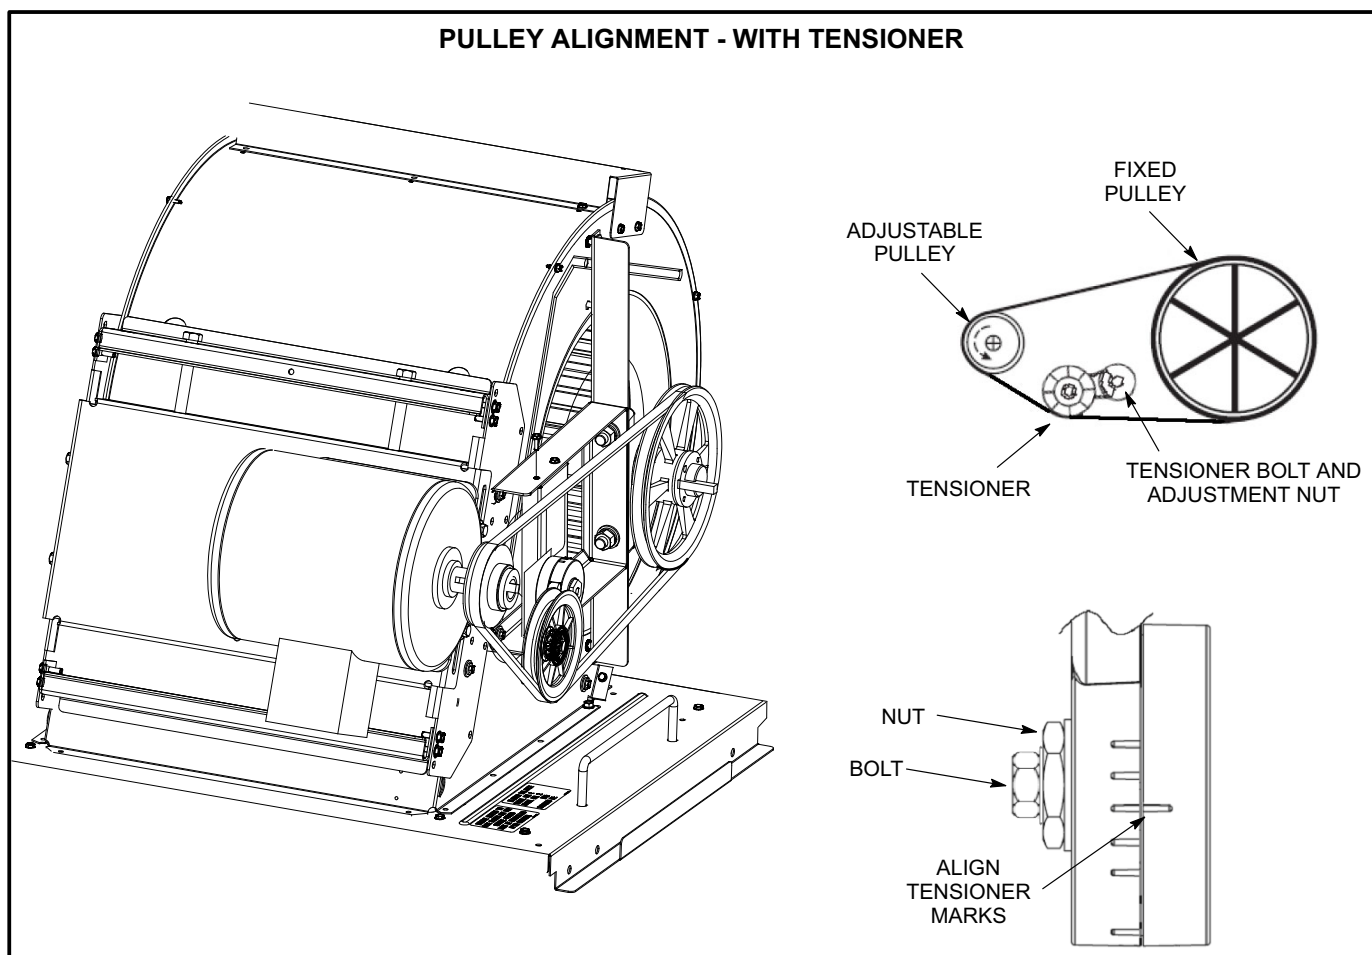

FIGURE 17
- 1- Loosen the bolt in the center of the tensioner. See figure 17.
- 3- Using a 15/16" wrench, turn the tensioner nut until marks align as shown in figure 17.